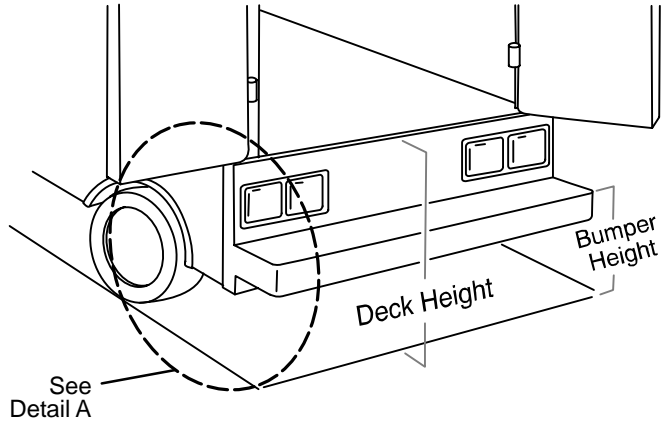
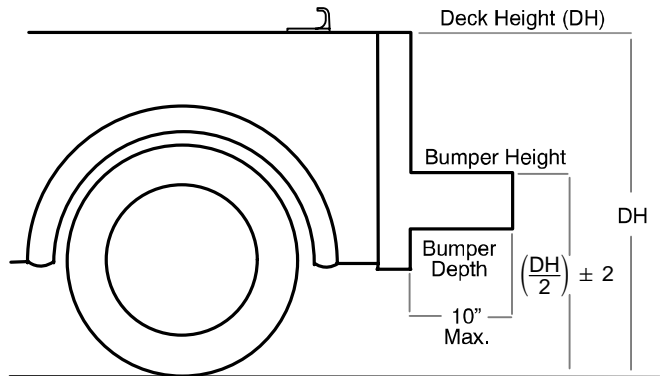

Figure 3 – Ambulance Configuration
Figure 4 – Ambulance Configuration
According to federal regulations (reference KKK-A-1822E), the bumper height of the ambulance shall be installed equidistant ± 5 cm (2 inches) from the ambulance floor to the ground level, defined as the ambulance deck height (Figure 3). The bumper step shall have a minimum depth of 13 cm (5 inches) and a maximum depth of 25 cm (10 inches). If the bumper length is greater than 18 cm (7 inches), then the bumper must be able to fold. Installation of the safety hook into any ambulance vehicle compliant with this federal specification will provide adequate clearance for the cot base to lower to its fully extended position (Figure 4). The cot is compatible with all ambulance deck heights up to 32 inches as long as the ambulance meets the federal specifications outlined in KKK-A-1822, revision E.
3. Center the safety hook (Figure 4) on the cot safety bar. Be sure the hook is facing the front of the vehicle.